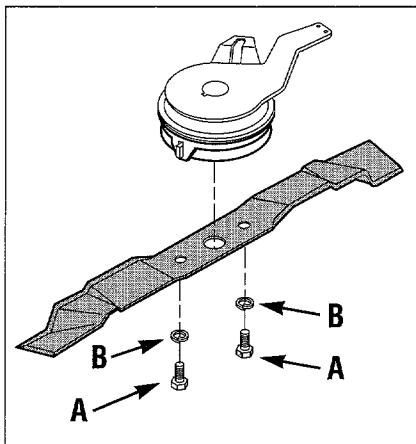

Figure 5-17: Remove/Install blade (Models 34311 and 34328).
A. Using a 17 mm metric wrench, remove the two hex head screws (A) and lockwashers (B) from the blade. See Figure 5-17.